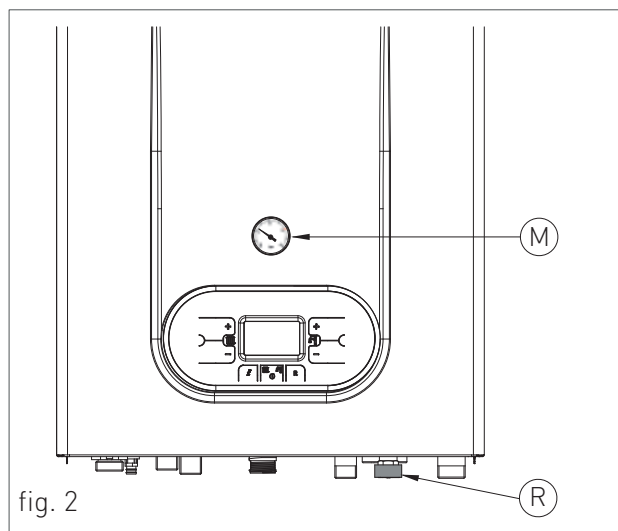

fig. 2
LOCATION (SEE FIG.2 AT CHAPTER 'POSITIONING AND MINIMAL TECHNICAL SPACES').
It is allowed an outdoor installation in a partially protected location (i.e. shelter, balcony) that respect the minimum measure indicated in figure 2.
4. open the feeding tap "R" (fig. 2);
6. use pressure gauge "M" (fig. 2) to make sure that the system pressure reaches 1.2 bar (fig. 4);
7. after performing this operation, make sure that the loading tap "R" (fig. 2) is properly closed.